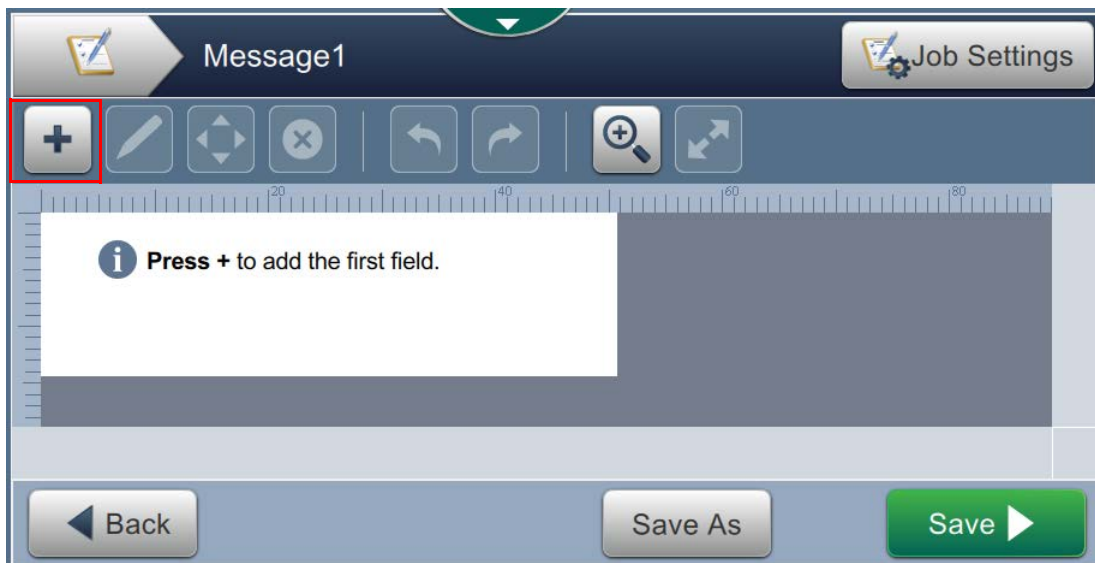

Figure 3-5: Job Editor Screen
4. Touch the '+' button on the Job Editor screen and select the required options to insert fields as shown in Figure 3-5.